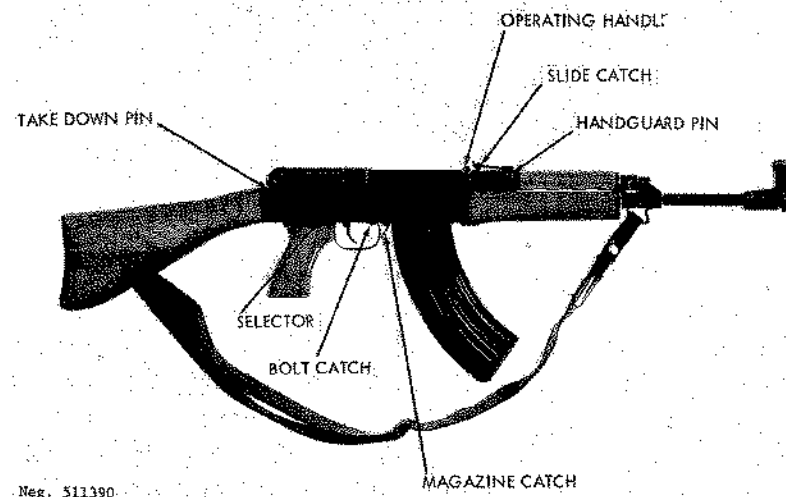
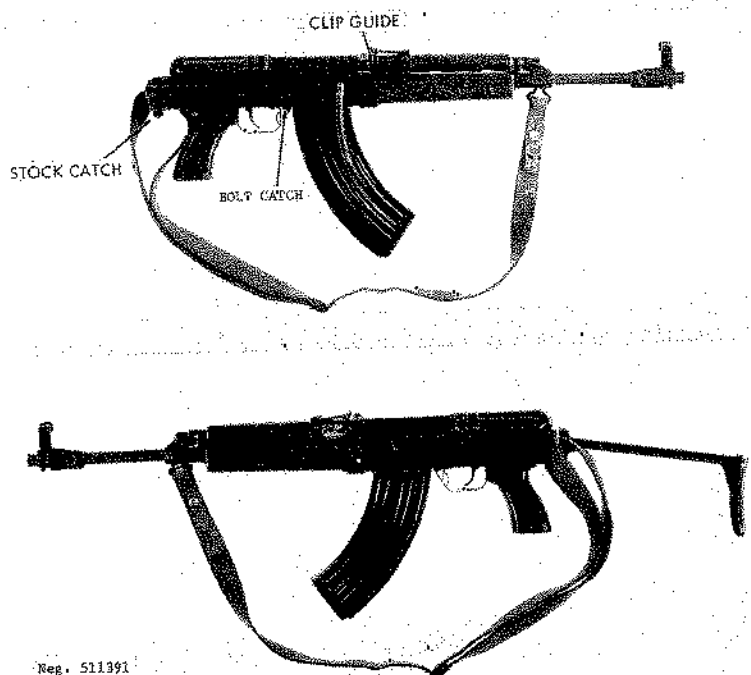

Figure 91. Czechoslovak M58P assault rifle.
Figure 92. Czechoslovak M58V assault rifle.
a. The Czechoslovak-designed and produced Vz58 assault rifle, a gas-operated, selective fire, box magazine-fed weapon, is the standard shoulder arm of the Czechoslovak Army. These assault rifles have also been sold to several other nations. Two versions of this rifle exist: The Vz58P (fig 91), with a
conventional fixed butt stock, and the Vz58V (fig 92), with a folding metal butt stock. Early production weapons had wooden forearms, pistol grips, and, in the case of the Vz58P, butt stocks, current production weapons have these components fabricated from a wood fiber-filled plastic material.
a. Load the magazine, using 10-round SKS stripper clips (para 113a). With an empty magazine in the weapon, fully retract the operating handle (fig 91) and release it. The bolt mechanism will be held open. Place a stripper clip into the clip guides (fig 92) formed at the top front of the bolt carrier and, with the thumb as close as possible to the base of the top cartridge, press the cartridges off the clip and into the magazine (fig 91). Remove the empty stripper clip and repeat until 30 rounds have been loaded. If SKS stripper clips are not available, load the magazine as for the AK-47 (para 89a) and, after loading, engage the T-lug on the front of the magazine with its recess in the magazine opening of the receiver. Then swing the magazine rearward until the magazine catch snaps into place. Alternatively, individual cartridges can be pressed into the magazine one at a time with the magazine in place in the receiver.
c. Unless the rifle is to be fired immediately, put it on safe by rotating the selector (fig 91) to the vertical position. This locks only the trigger; the bolt can be opened if necessary.
d. If the rifle is a Vz58V, the best firing results are obtained by using the stock to brace the rifle. Press up the stock catch (fig 92) at the rear of the receiver and swing the stock sideways until it locks in its extended position. The stock is folded by pressing in the stock latch and swinging the stock forward.
f. The front sight is adjustable for zero. Refer to paragraph 95b(2) for the procedure to be followed.
h. Remove the magazine by pressing the magazine catch (fig 91) toward the magazine; then swing the magazine forward and out of the receiver.
i. To clear the Vz58, set the safety to its vertical (safe) position, remove the magazine, and pull the operating handle fully to the rear. Press up on the bolt catch (fig 91) located at the right front of the trigger guard and release the operating handle. The bolt will remain open. Inspect the receiver and chamber to insure that no cartridges are present, then pull the operating handle to the rear and release it. Rotate the selector to "30" or "1", press the trigger, and then rotate the safety to its vertical (safe) position. Insert the magazine.
(1) Clear the weapon (para 105i), but do not insert the magazine or put the weapon on safe. If the weapon is a Vz58V, extend the stock.
(2) Pull the receiver cover pin, located at the top rear of the receiver (figs 91 and 92), to the right as far as possible. Press the receiver cover slightly forward and lift up its rear end. Ease the receiver cover rearward and remove it along with the hammer and the driving springs.
(3) Pull the operating handle fully rearward. Then, with an upward motion of the operating handle, rotate the bolt carrier and the bolt from the receiver.
(4) Pull the handguard pin (figs 91 and 92) (located at the front of the rear sight base) to the right as far as possible and lift off the handguard. Grasp the shaft of the gas piston and force